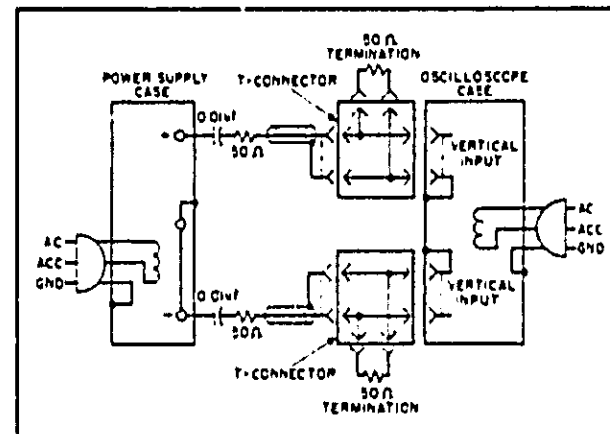

Figure 5-5. CV Noise Spike Test Setup
- As shown in Figure 5-5, two coax cables must be substituted for the shielded two-wire cable,
5-31 The circuit of Figure 5-5 can also be used for the normal measurement of low frequency ripple and noise; simply remove the four terminating resistors and the blocking capacitors and substitute a higher gain vertical plug-in in place of the wide-band plug-in required for spike measurements. Notice that with these changes, Figure 5-5 becomes a two-cable version of Figure 5-4C.